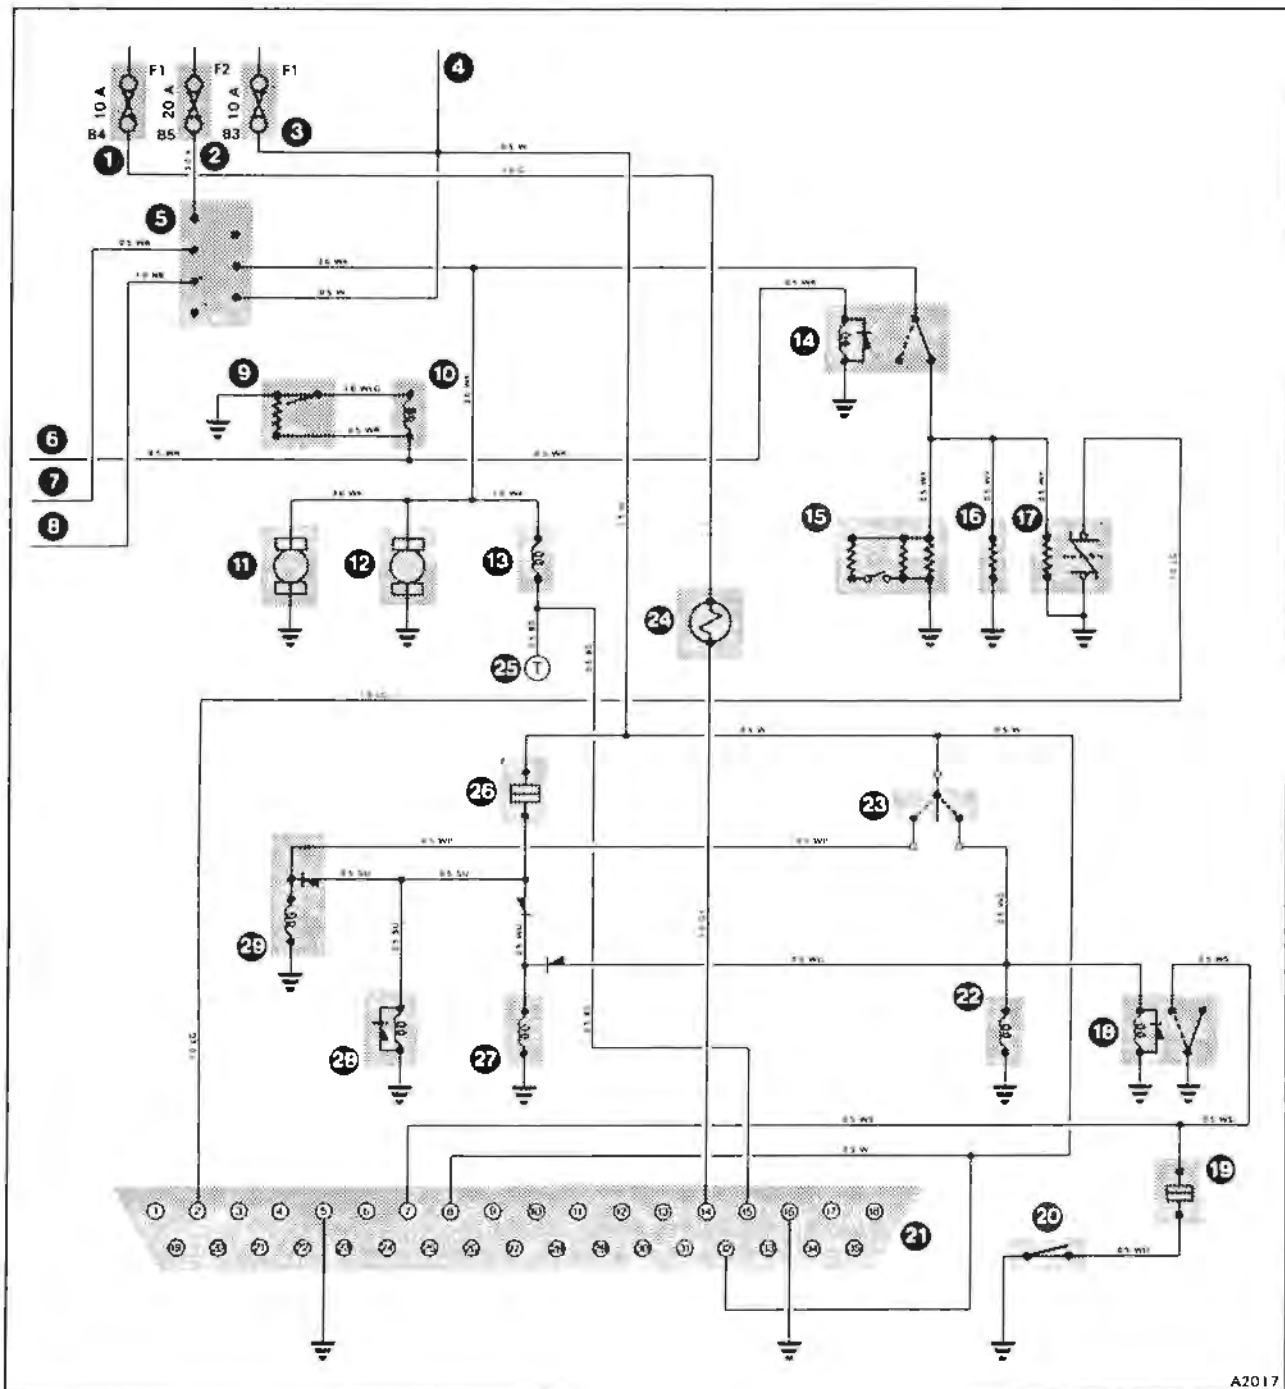

Fig. B2-22 Theoretical wiring diagram (cars fitted with a catalytic converter)
### System warning device (see fig. B2-22)
**Key to fig. B2-22 Theoretical wiring diagram